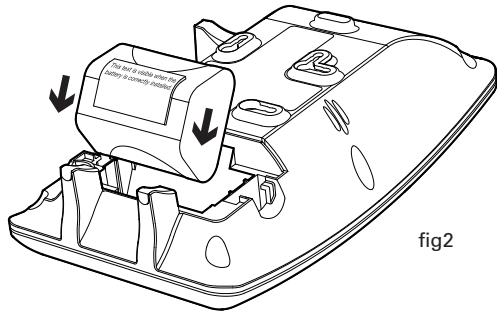

fig2
3. Place the battery into the recess. **NOTE:** The battery cable needs to be positioned underneath the battery. Place the cable into the bottom of the recess and place the battery over the top, with the battery text facing up as shown (fig 2). This will ensure that the battery is installed correctly.